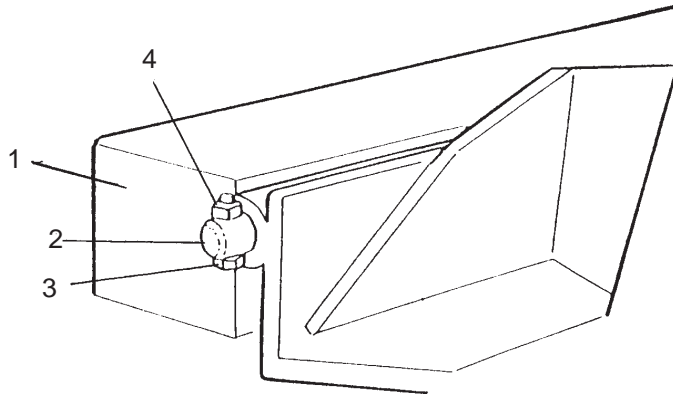

FIGURE 4. Wing Sections Attachments
Lock the Wing Sections in place with the Hinge Pins. Insert 5/16" x 1-1/2" bolt (3) and locknut (4) at the end of each of the Hinge Pins and tighten securely. **FIGURE 4.**